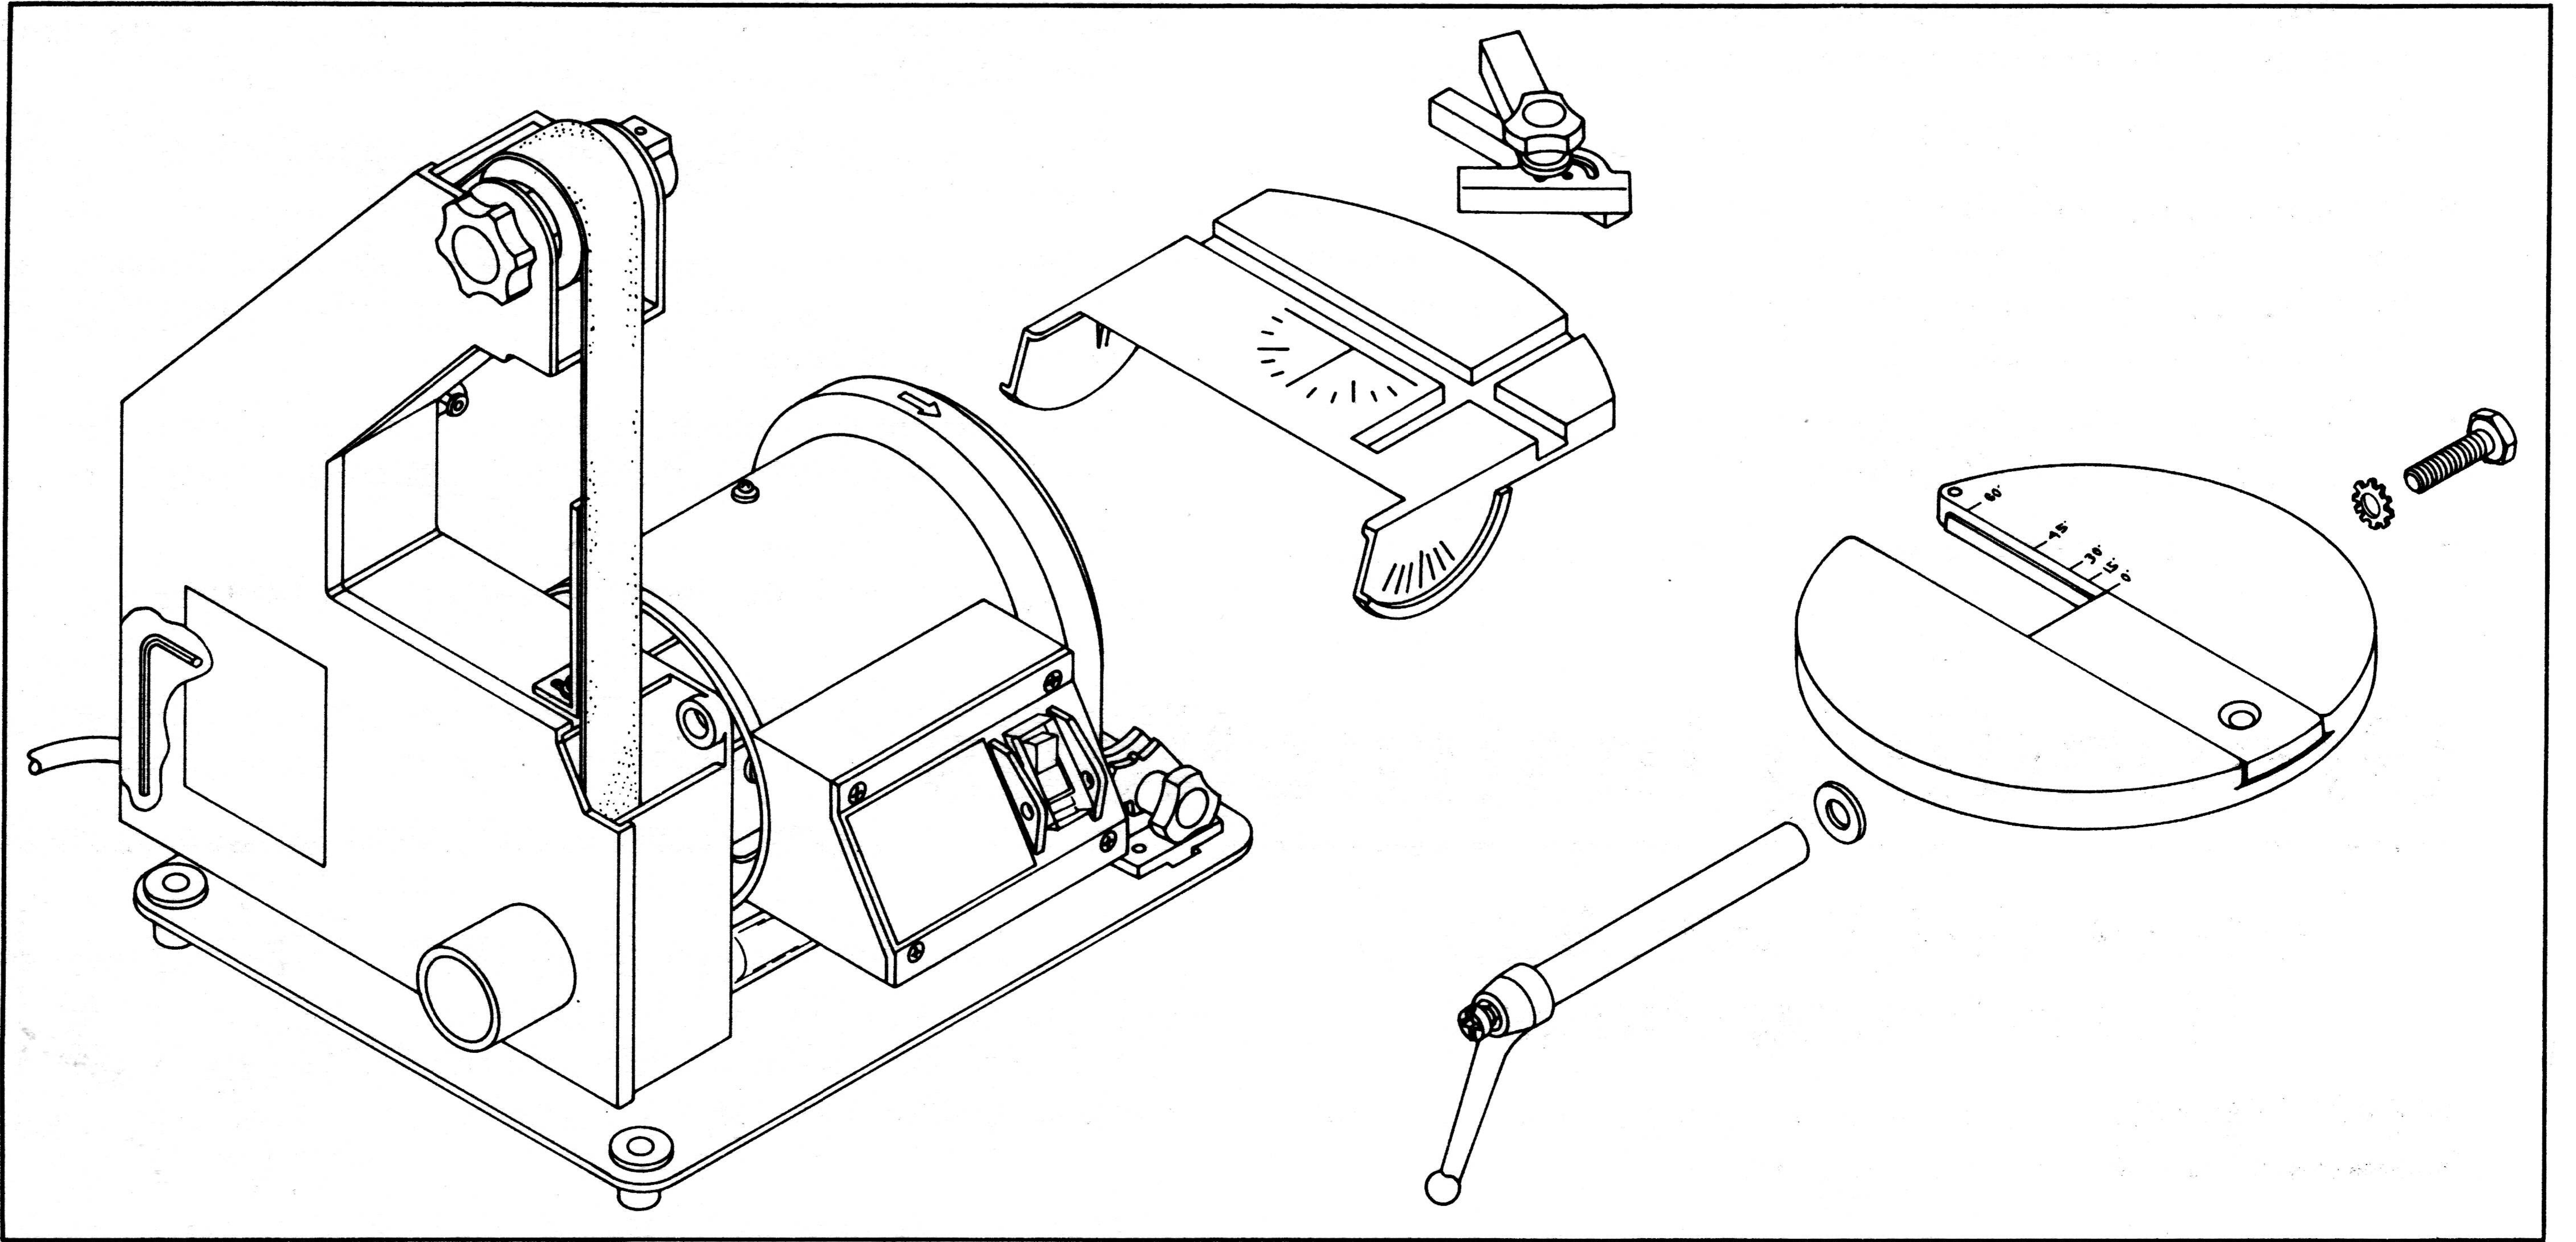
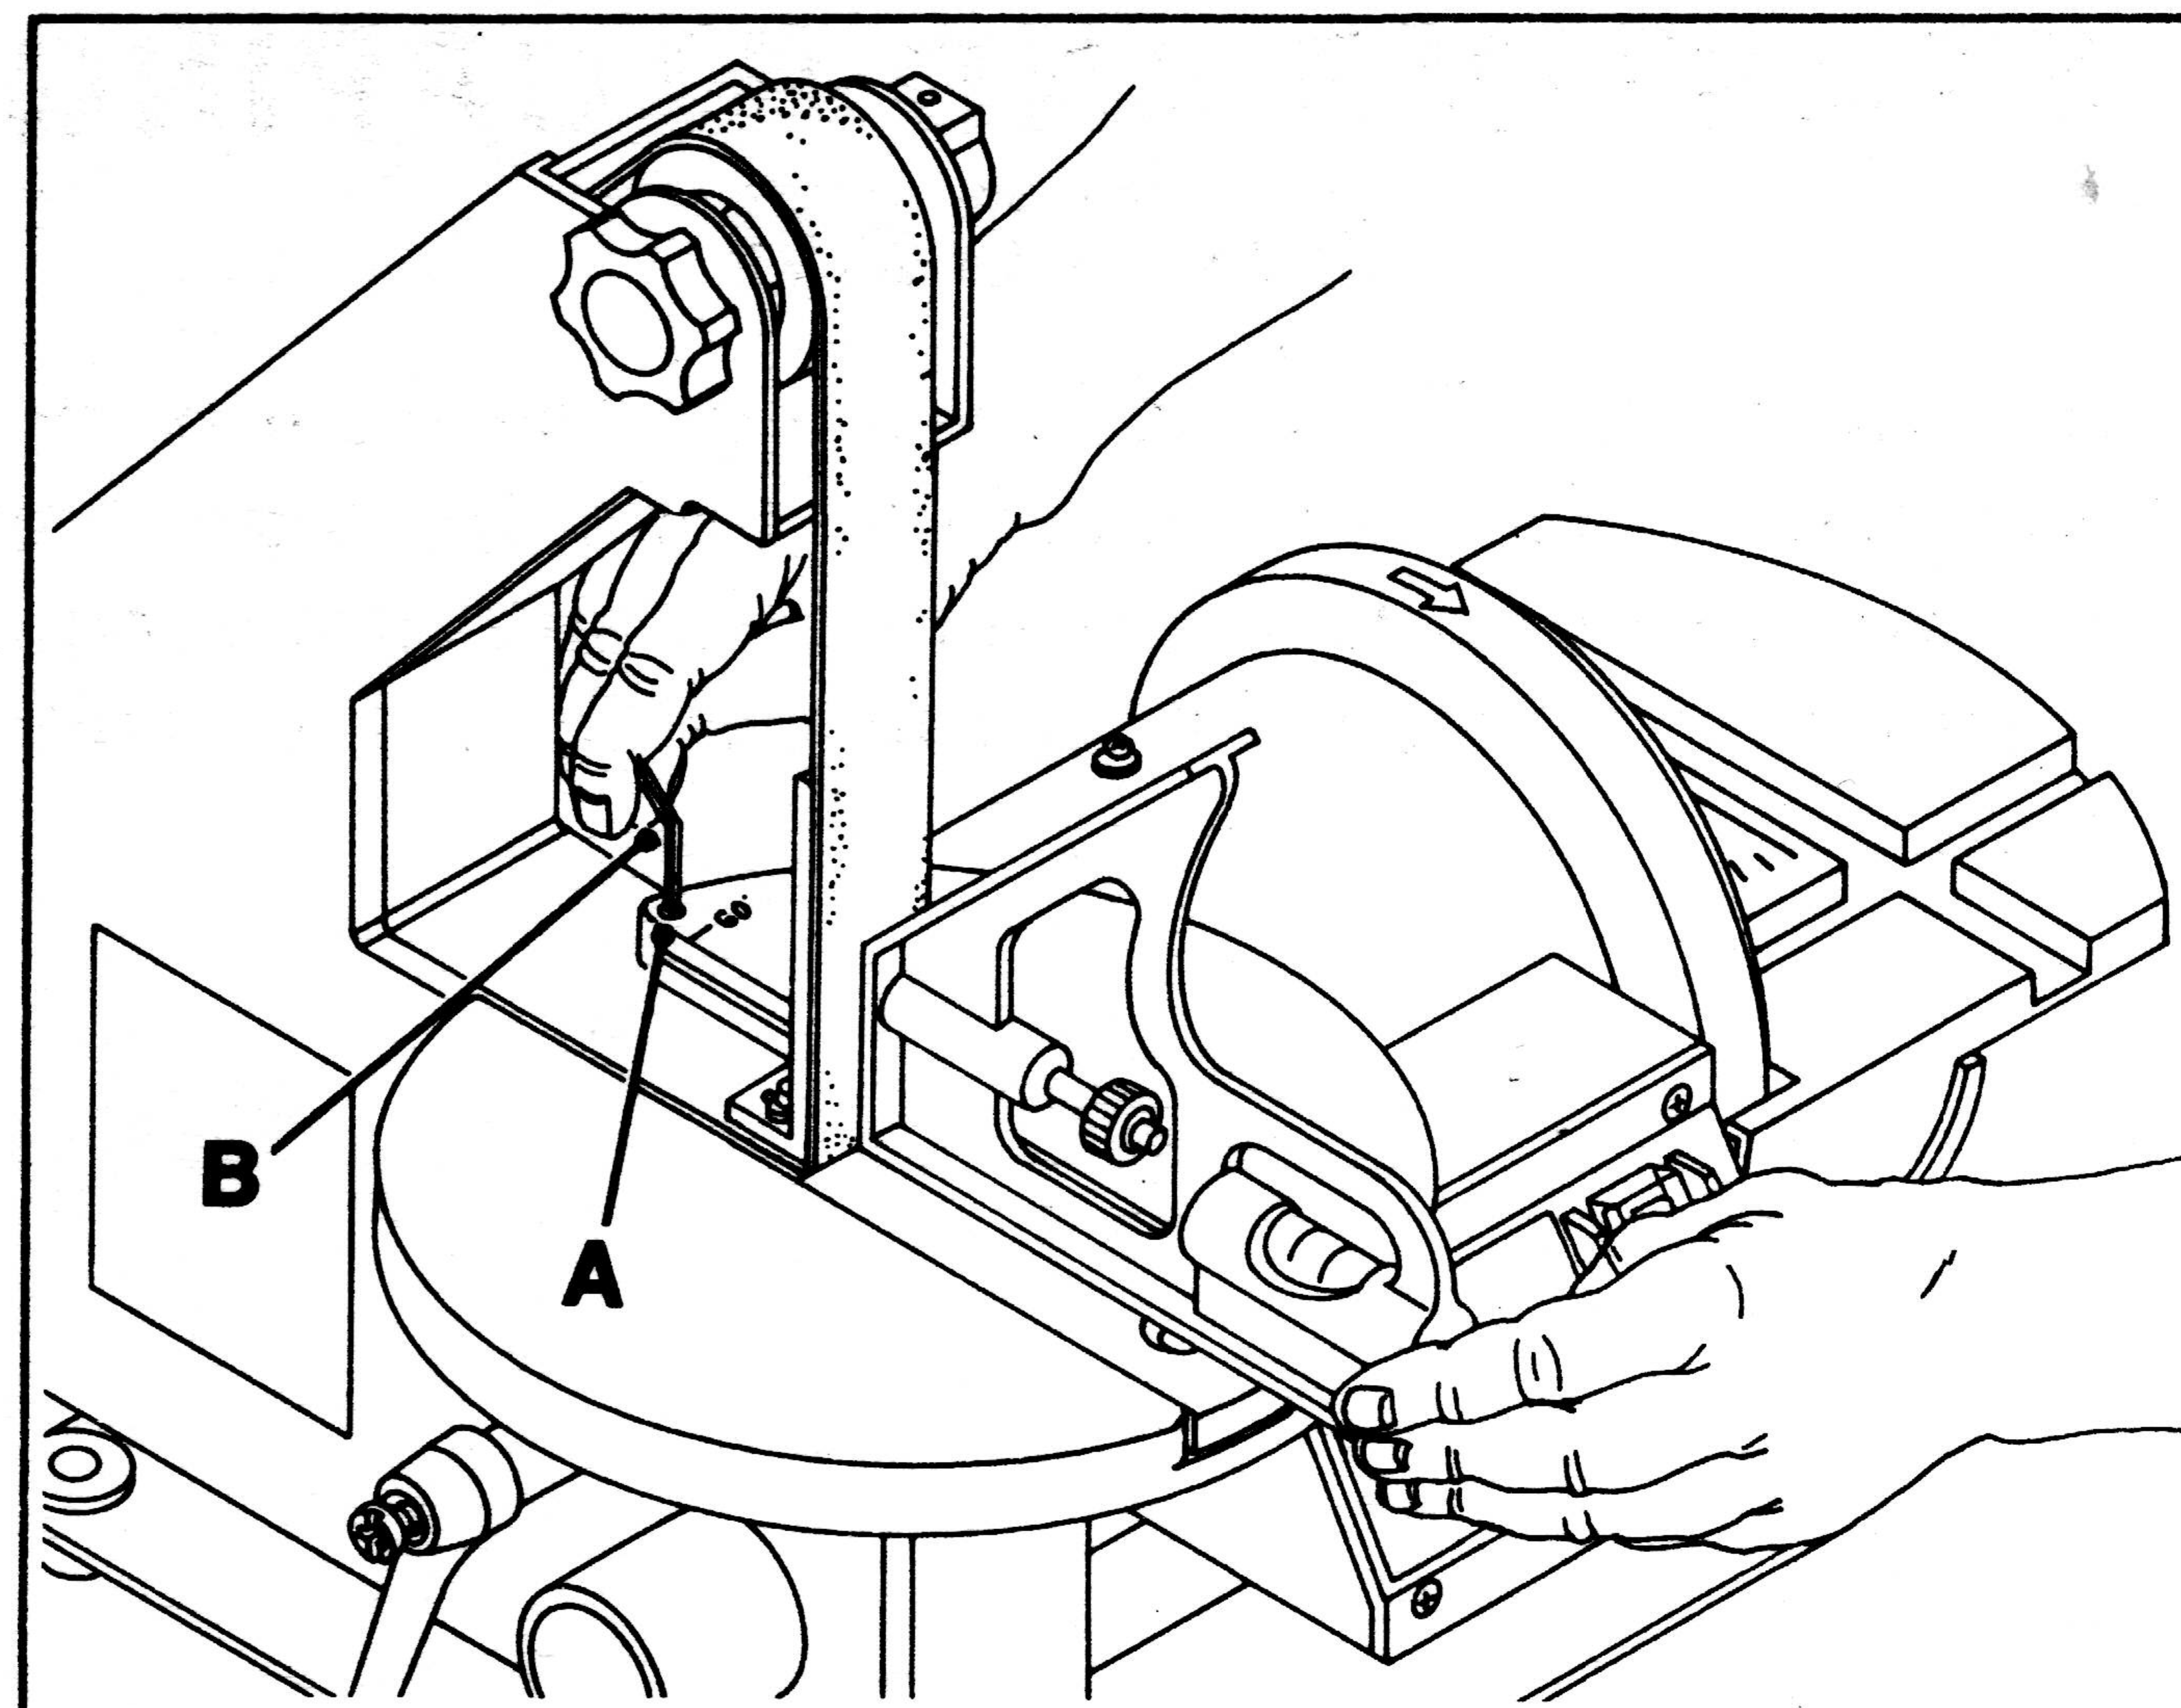
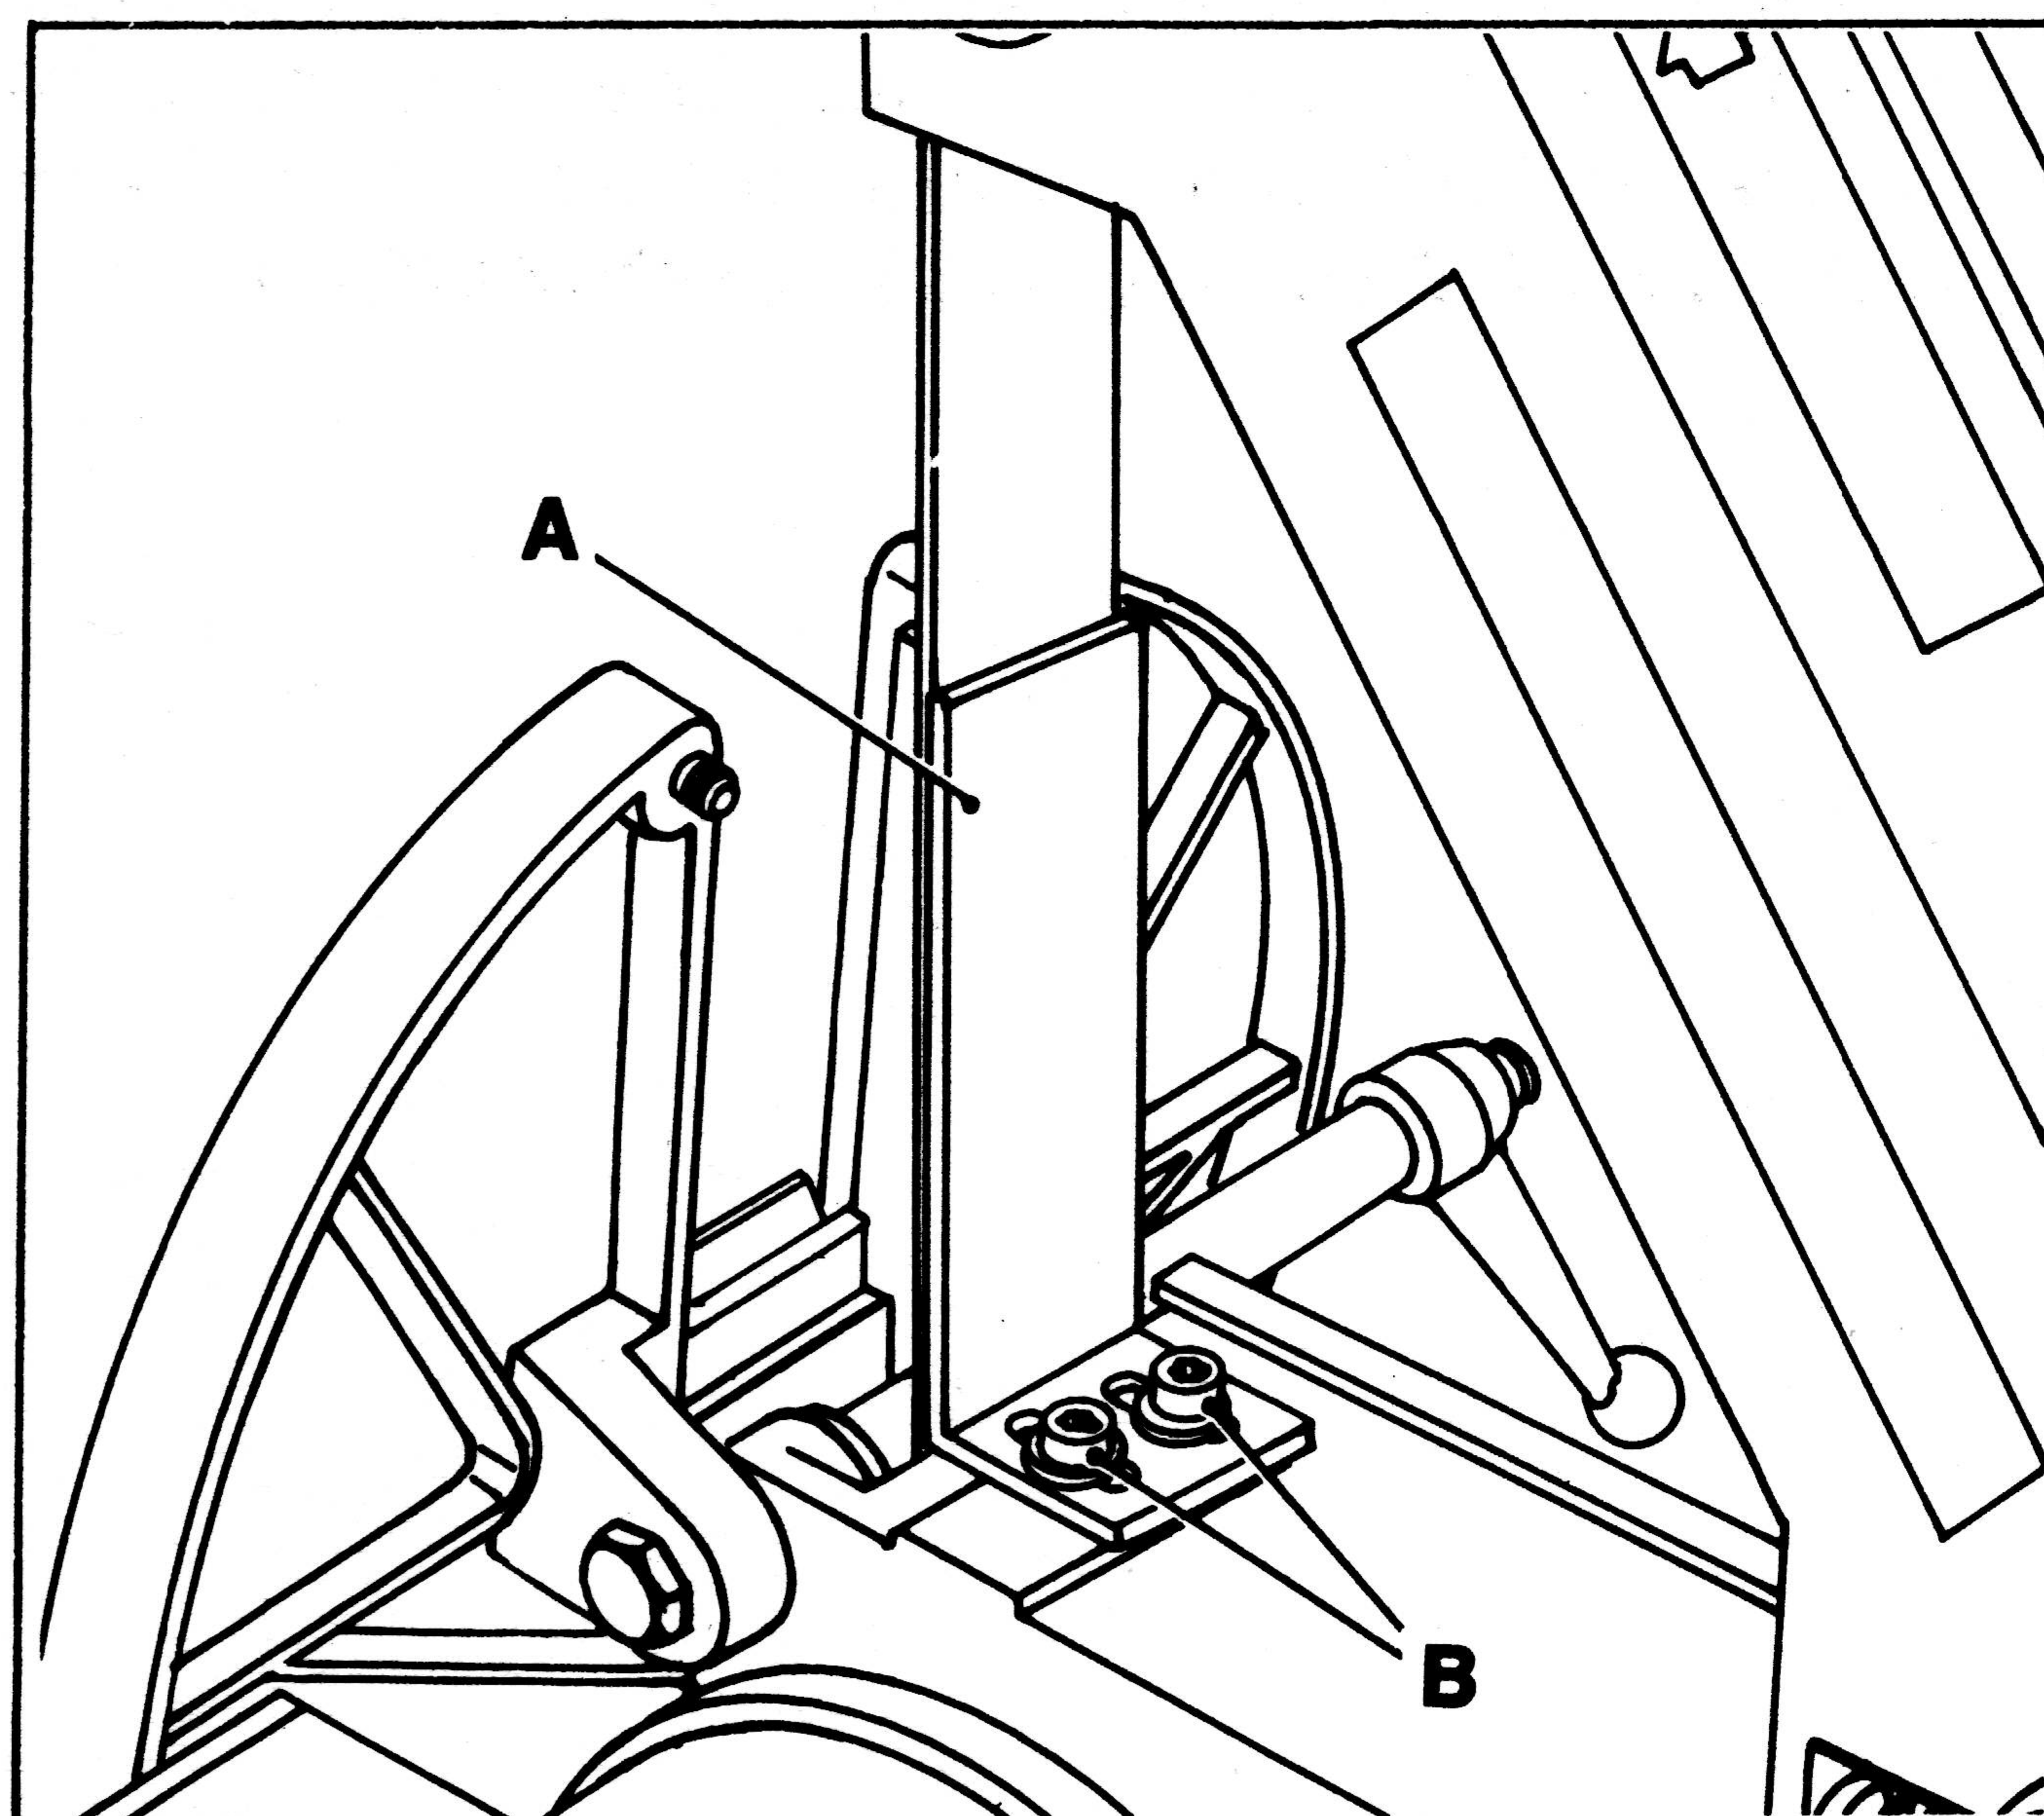

Fig. 1
Fig. 12
Fig. 14
2. Using a combination square, place one end of the square on the table with the other end against the sanding belt, as shown in Fig. 12 and check to see if the table is 90 degrees to the belt.
3. If the table surface is not 90 degrees to the belt, turn the adjusting screw (A) Fig.12 with wrench (B) that's provided and stored on inside of side cover Fig. 1 until the table is 90 degrees to the belt when the table is tilted all the way to the rear.
The platen (A) Fig. 14, is constructed of heavy steel to properly support the work when sanding. The platen (A) should be adjusted so it is almost touching the back of the sanding belt by loosening the two screws (B) with the wrench provided, (Fig. 1) adjusting the platen, and tightening the two screws (B).
To remove the platen for operations such as strap-ping, polishing or other special operations, remove two screws (B) with allen wrench provided, and platen (A) (Fig. 14).